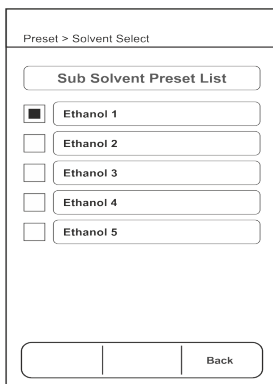

Fig. No. 25.4
b. Solvent Selection (Ref. Fig. No. 25.4)